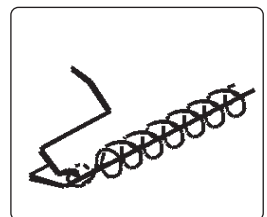

fig.1
- 4.5. Fit cutting blade spring (10) to either end of the cutting blade (3), as shown in fig.1.
- 5.6. Thread leading edge of paper between cutting blade spring (10) and guide edge of cutting blade (3), see fig.1.